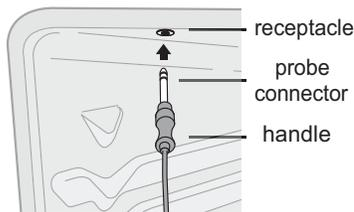

Figure 34: Probe connector
3. Plug the connector end of the probe all the way into the probe receptacle while the oven is still cool. The receptacle is located on the top left front of the oven cavity (Figure 34).